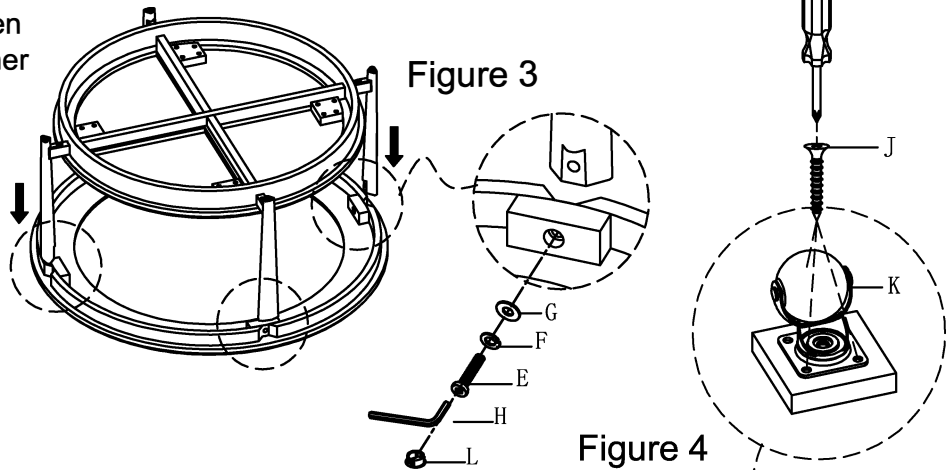

Figure 3
3. Turn the table top frame upside down on to a clean, soft surface. Attach the assembly to the top frame, tighten Bolt (E), Lock Washer (F) and Flat Washer (G) by using Allen Wrench (H). Cover the bolt holes by plastic cap (L) as shown in Figure 3.